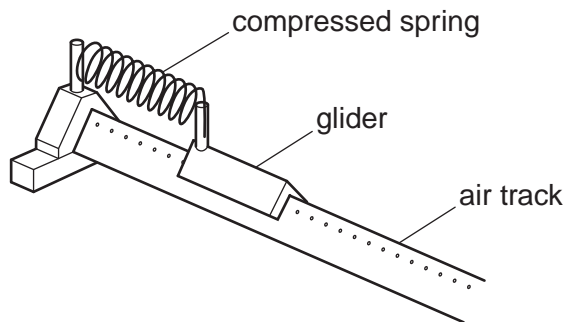

Fig. 6.2
- (c) A glider of mass 0.180 kg is placed on a horizontal frictionless air track. One end of the glider is attached to a compressible spring of force constant 50 N m^{-1} . The glider is pushed against a fixed support so that the spring compresses by 0.070 m , see Fig. 6.2. The glider is then released.